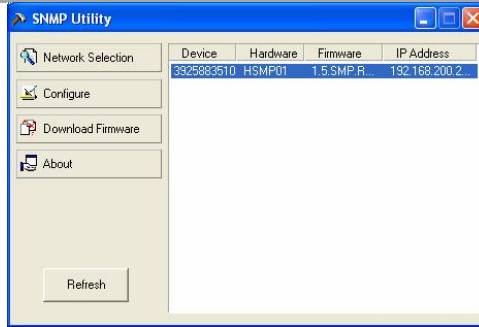

Figure 6 SNMP Utility
2. Click Start/ Programs/ SNMP Utility. The SNMP Utility appears, see Figure 6.